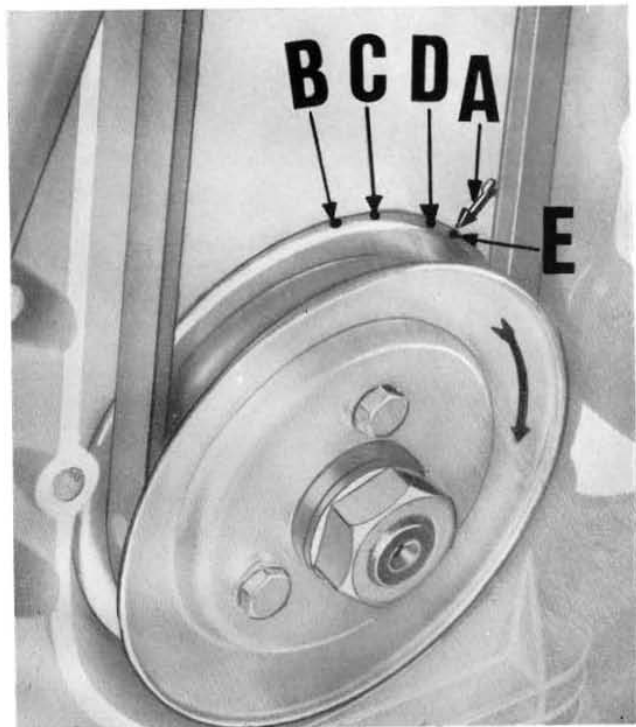

Fig. 26
Remove generator belt cover. Check that the distributor contact points are 0.42-0.48 mm. (.016"-.018") apart. Ensure the left cylinder (2) is on its compression stroke i.e. with both valves closed. Rotate the generator pulley on the crankshaft till the slot C (see fig. 26) is opposite mark A traced on the timing cover.
The new reference marks on the pulley (See fig. 26 and diagram 27) can be defined as follows: